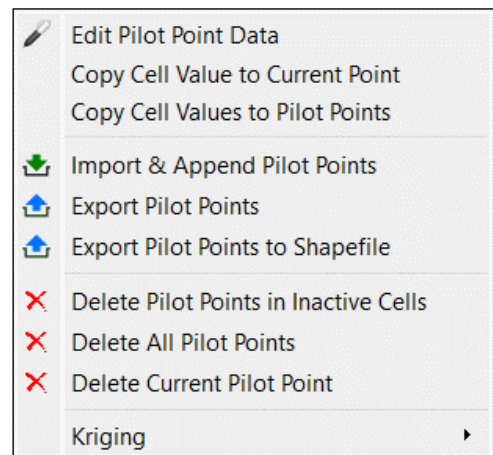

Figure 28. The Pilot Point menu
- Right-click anywhere on the Map Viewer to display the Pilot Point menu (Figure 28).
2. Right-click anywhere on the Map Viewer to open the Pilot Point menu (Figure 28).
- Right-click anywhere on the Map Viewer to open the Pilot Point menu (Figure 28).
- Right-click directly on the pilot point you want to delete to open the Pilot Point menu (Figure 28).
- Right-click on the desired pilot point in the Map Viewer to display the Pilot Point menu (Figure 28).
- Right-click directly on the pilot point to display the Pilot Point menu (Figure 28).
To open the Kriging Parameters dialog box, right-click in the Map Viewer and select *Kriging > Edit Parameters* from the Pilot Point menu (Figure 28). All parameters entered in this dialog box apply specifically to the current hydraulic property and current model layer. You can apply these parameters to all model layers by clicking Apply to All Layers in this dialog box.